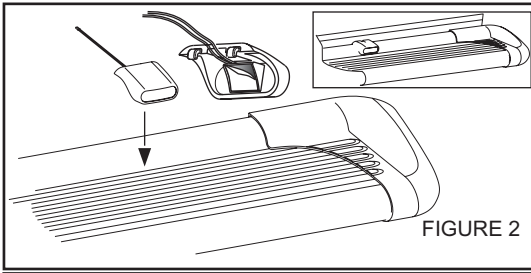
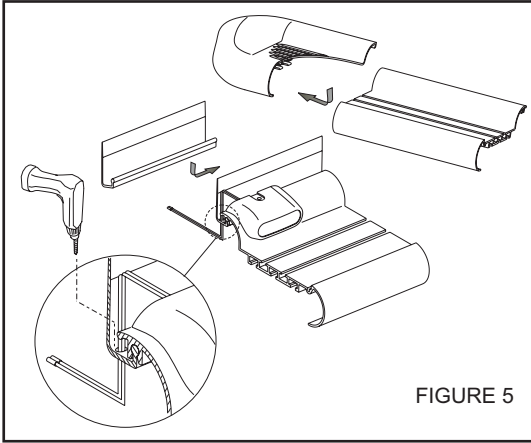

FIGURE 2
FIGURE 5
- STEP 4. For Sure Grip Running Boards, slide closure strip as shown. Set lights (if purchased) in appropriate location. Attach to Sure Grip Running Board as shown. **SEE FIGURE 2.** Drill hole through plastic strip and run wires as shown. **SEE FIGURE 5.**